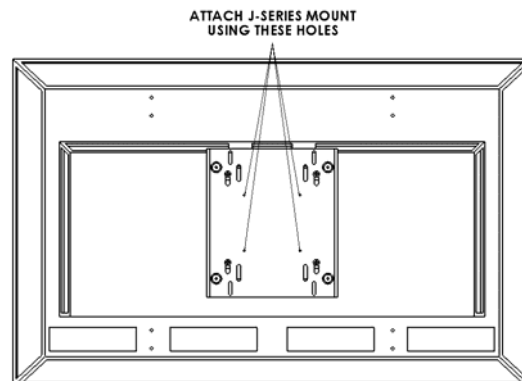

Figure 7
5. **J-Series Mounting:** Per mount instructions, use the 100mm x 100mm tapped holes on bracket to attach screen to J-Series mount (see Figure 7).